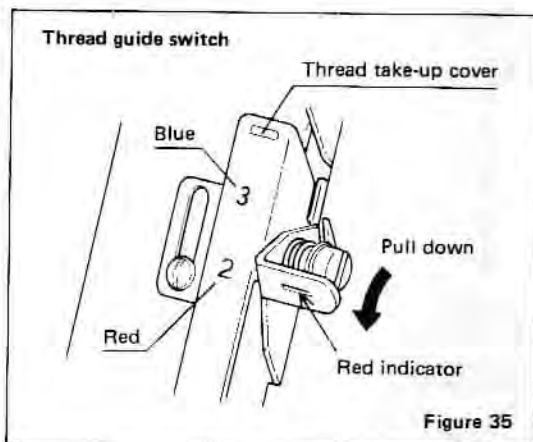

Figure 35
5. Move the thread guide switch down from blue "3" to red "2" aligning the pink mark on switch with the red "2" (Figure 35).